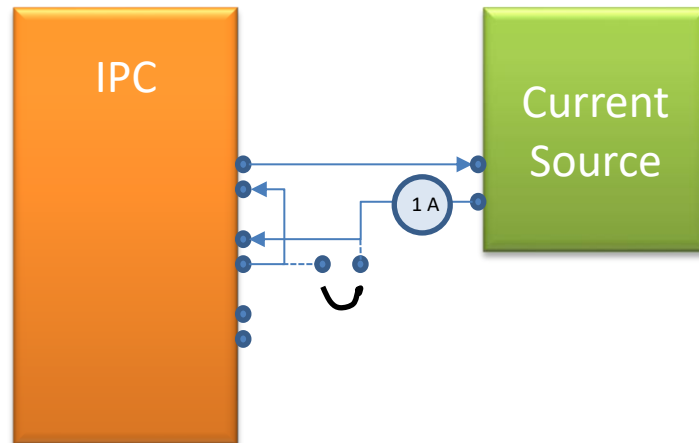

Figure 20. Current injection in two opposing phases.
- a. Inject current with a one or three phase instrument. Check the indications for each function of the front panel of the device, in the *Site manager*, in the *Event log* and, if possible, in the remote control end. See Figure 20.